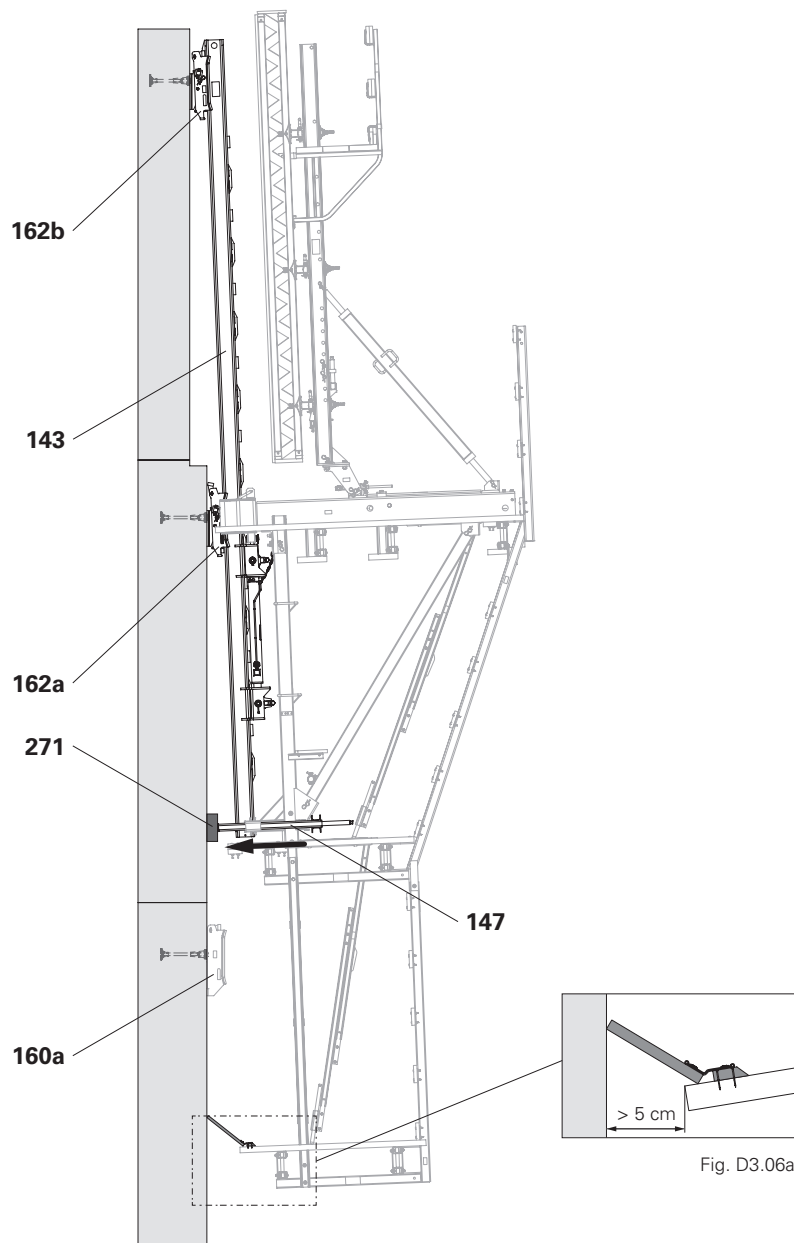

Fig. D3.06
4. Insert the Climbing Rail ACS (**143**) into the Climbing Shoe IV ACS (**162b**) and attach it. (Fig. D3.06)